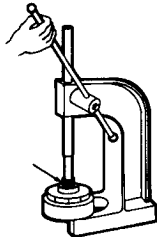

Figure 5
1. To remove the bushing, place the impeller assembly in an arbor press. Insert a 3/4" diameter plastic or wood shaft through the eye of the impeller and press the bushing out. See Figure 5.